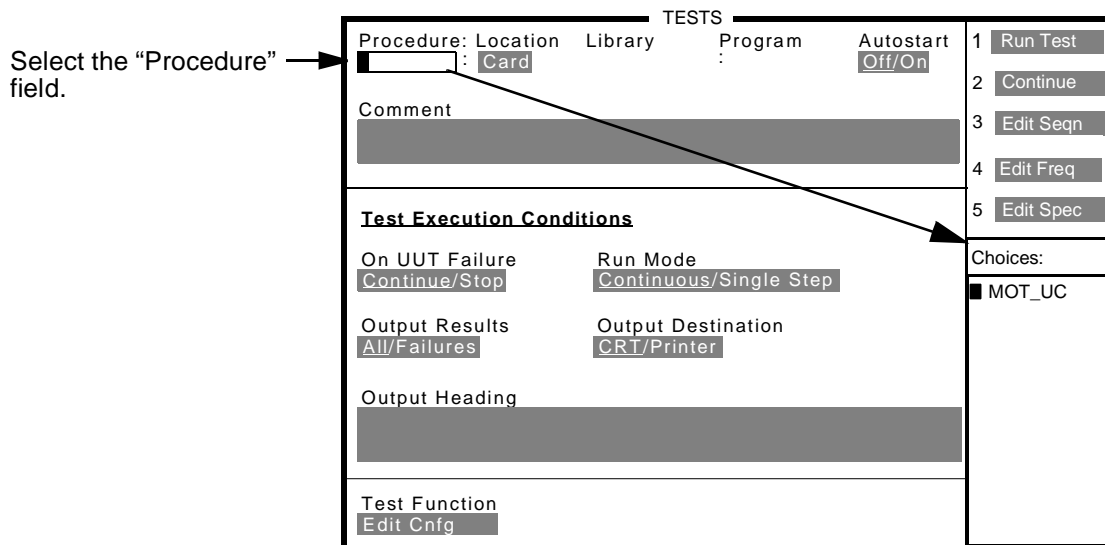

Figure 27
“Card” appears in the **Location** field (see figure 27).
- 3 Position the cursor next to the **Procedure** field and select it (see figure 27).